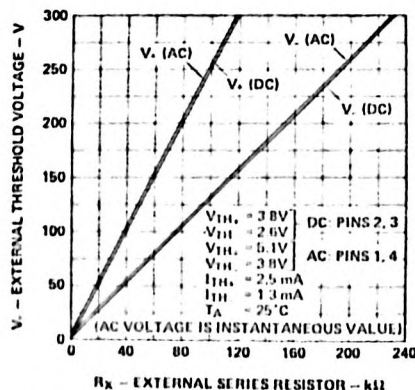
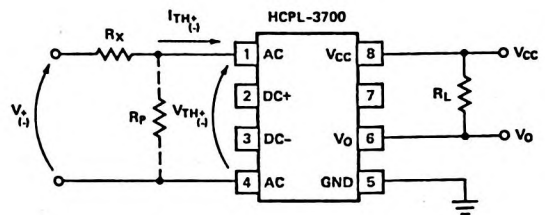

Figure 11. Typical External Threshold Characteristic, V_x vs. R_x .
Figure 12. External Threshold Voltage Level Selection.
The HCPL-3700 optocoupler has internal temperature compensated, predictable voltage and current threshold points which allow selection of an external resistor, R_x , to determine larger external threshold voltage levels. For a desired external threshold voltage, V_x , a corresponding typical value of R_x can be obtained from Figure 11. Specific calculation of R_x can be obtained from Equation (1) of Figure 12. Specification of both V_+ and V_- voltage threshold levels simultaneously can be obtained by the use of R_x and R_p as shown in Figure 12 and determined by Equations (2) and (3).